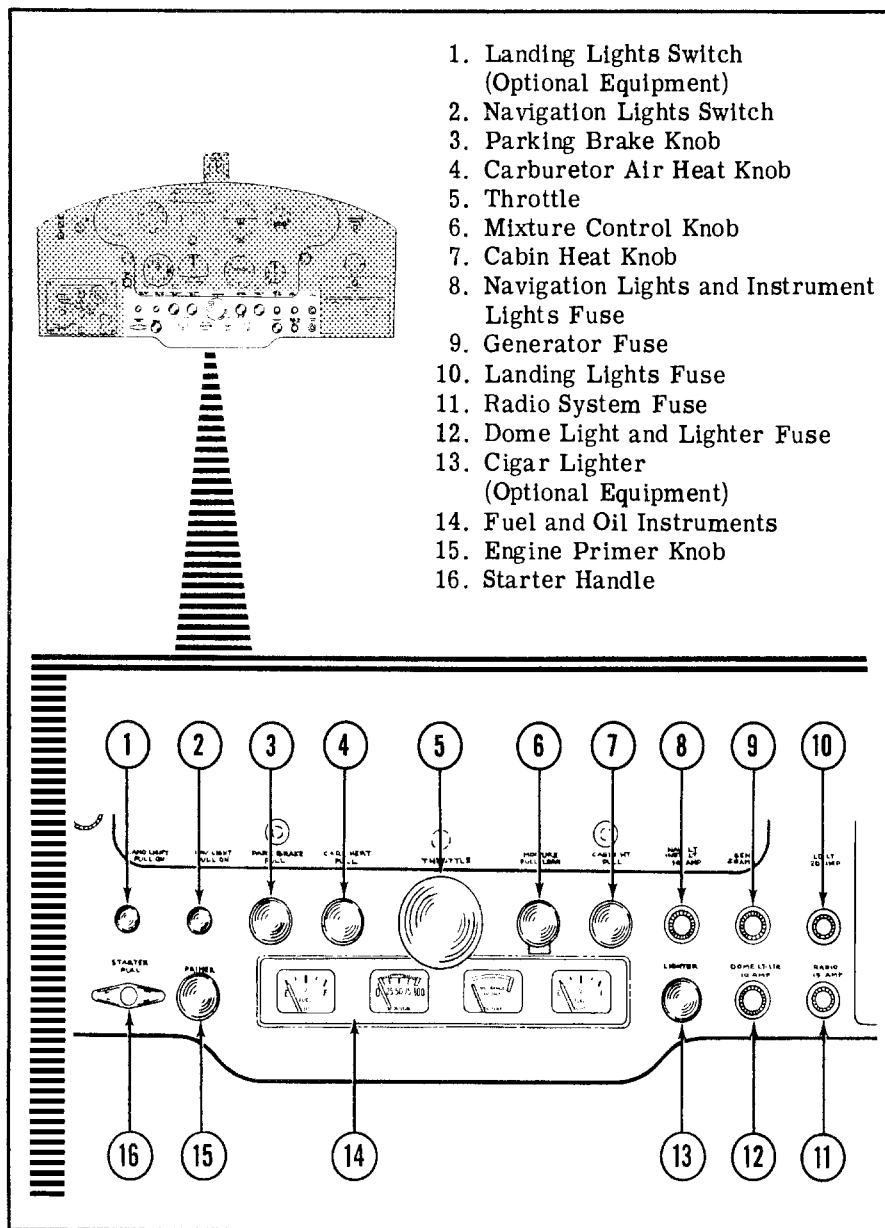

Figure 1-3. Switch and Control Panel
The mixture control (figure 1-3) incorporates a locking lever to prevent unintentional use of the mixture control knob. To lean the mixture, it is necessary to depress the locking lever while pulling the mixture control knob out. This operation can be accomplished with one hand by using the thumb to press the locking lever in and the index and middle fingers to pull the knob out. The locking lever is effective only in the leaning operation. Forward movement of the mixture control knob is not affected by the locking lever.
The carburetor air heat knob (figure 1-3) operates the carburetor air intake butterfly valve, which proportions hot and cold air entering the carburetor. Pulling the knob out provides heated air for the carburetor while pushing the knob all the way in provides only cold air.
- 11. Switch and Control Panel (See figure 1-3)
erated by the engine primer knob (figure 1-3). It is used to aid in starting the engine by supplying an initial charge of raw fuel to the cylinders. For an initial start in normal air temperatures, use two strokes of the primer. Usually, a hot engine will need no priming. To operate the primer, proceed as follows:
Pulling out on the "T" shaped starter handle (figure 1-3) engages the engine starter. It is spring-loaded to return to the disengaged position.
A capillary type oil temperature gage (figure 1-3) and a direct reading oil pressure gage (figure 1-3) are standard equipment. A green arc on each gage dial indicates the normal operating range. Refer to Section IV for instrument markings.